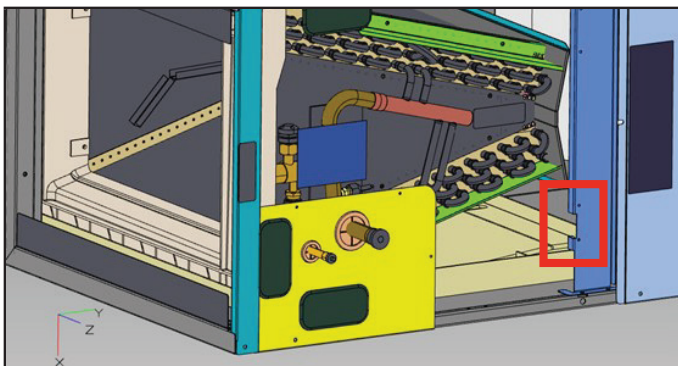

FIGURE 28
- 4 - Ensure sensor wire routes to the right hand side, as viewed from the front of the unit. The wire must route through the slotted opening in the center support bracket (see FIGURE 28).